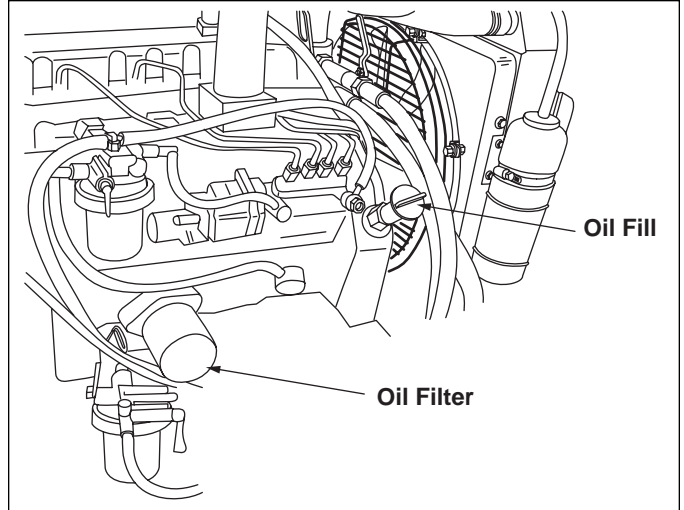

Figure 4-3. Engine Oil Fill and Filter
7. Remove the oil fill cap from the engine (Figure 4-3). Pour in new oil. Crankcase capacity is 6.1 qts. (5.7 L). Reinstall oil fill cap.